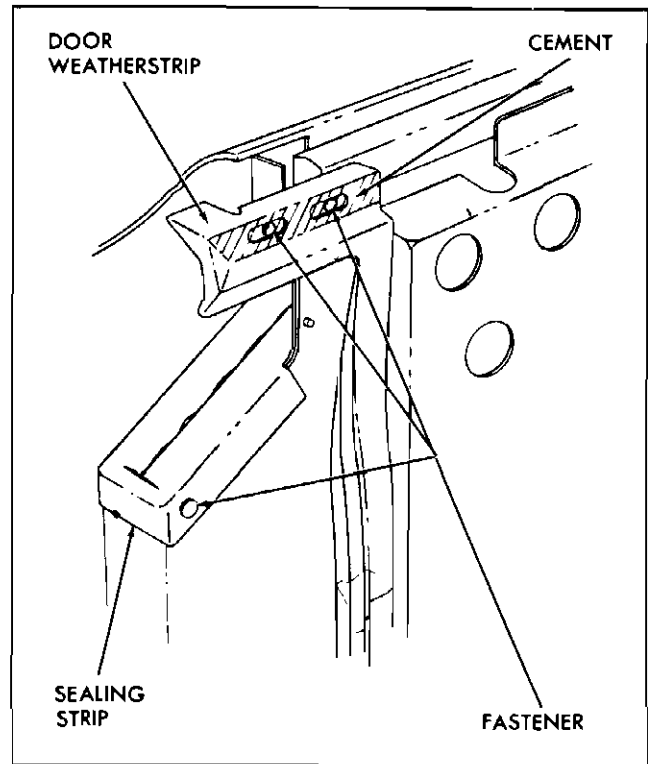

Fig. 2-4 Rear Door Hinge Pillar Sealing Strip
2. Check all attaching hole sealing plugs. If sealing plugs are loose and will not remain engaged in door inner panel, install a 1/2" x 1" piece of cloth backed waterproof body tape over sealing plug retaining hole, as shown in Section P-P, Fig. 2-4. Make two 5/16" slits in tape to form an "X". Install plugs and check for a snug fit. If plug is still loose, repeat above operation by installing a second piece of tape over existing repair. This procedure may also be used to repair waterleaks which may develop at sealing plug locations.
1. Remove snap fasteners securing sealing strip to hinge pillar facing of rear door and remove strip (Fig. 2-4).